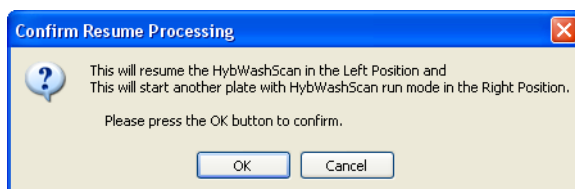

Figure 51 Confirm Resume Processing Prompt
- e. Click **OK** when prompted to resume plate processing (Figure 51).